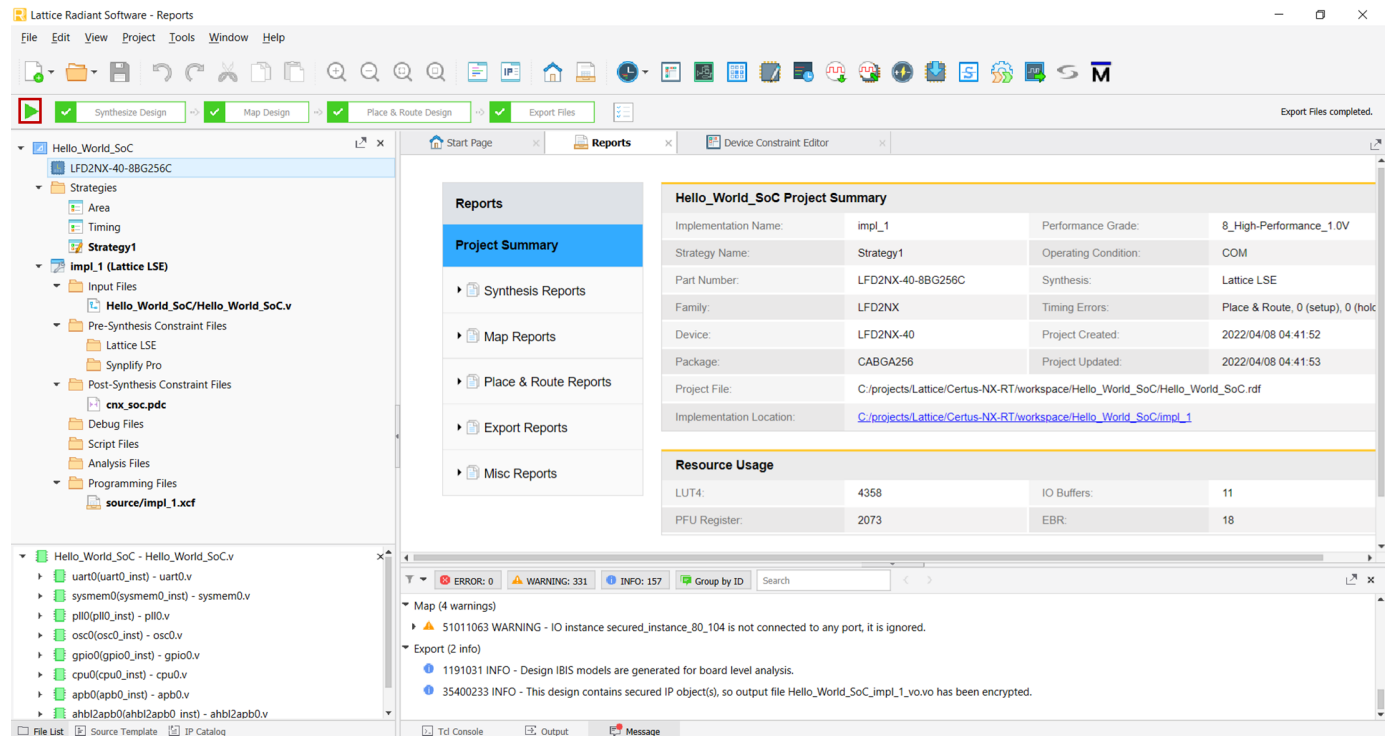

Figure 16: Compiling the Lattice Radiant Design
12. Before compiling the entire design, assign the proper pin number to the signals based on the eval board schematics, see **Figure 16**.
13. Compile the design by clicking on the **Run All** arrow, see **Figure 16**.